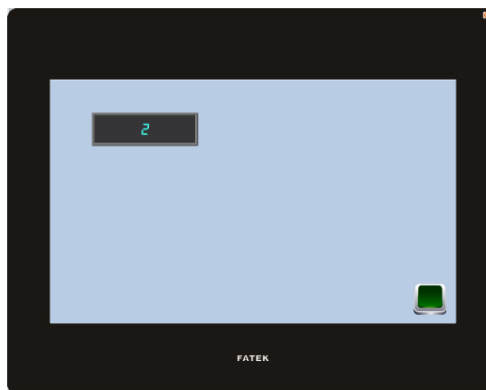

Figure 401 Offline Simulation
**Offline Simulation** is as shown in Figure 401. A simulator will open on the PC and create a virtual PLC that is connected to the HMI in the memory of the PC. Therefore, no communication errors will be generated during the simulated connection. The simulated connection is used to verify the accuracy of the screen and logic.